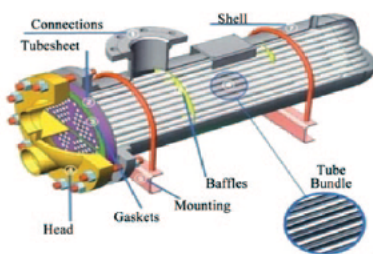

Figure 1: A typical Shell & Tube type heat exchanger...
**HE components:** The two HE in an HVAC system are the condenser and evaporator. Both of these are of the Shell and Tube type, where one of the fluids is in the shell and the other passes through the shell through tubes. The tubes are held together by the HE covers at either end and inlet and outlet points are provide for the hot and cold fluids. The other components of a HE are the instruments such as pressure gauges and temperature gauges, as well as any instrumentation that is fitted onto the condenser or evaporator. Figure 1 shows a typical heat exchanger.